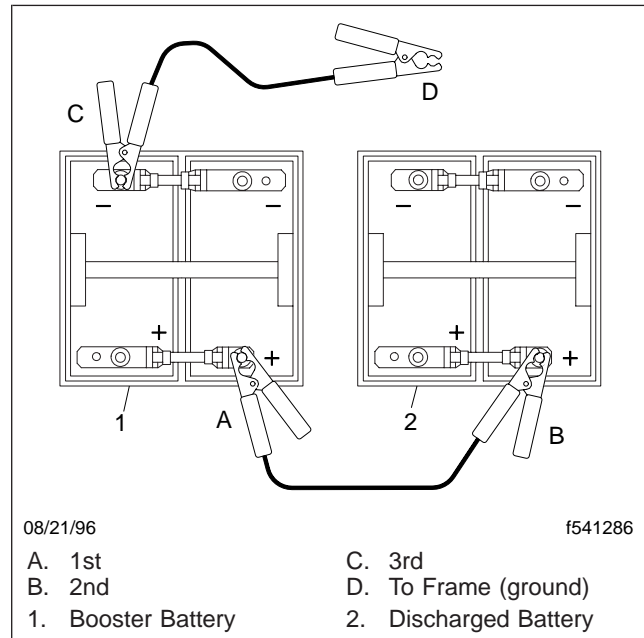

Fig. 13.1, Jumper Connections
2. Connect one end of a jumper cable to the positive terminal of the booster battery and connect the other end of the cable to the positive terminal of the discharged battery. See Fig. 13.1.